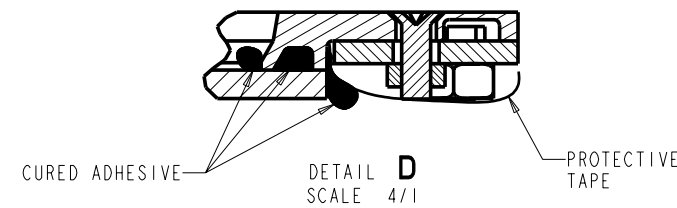

FIGURE 3
OVER CORRECTION (FIG 3)
## OVER CORRECTION (FIG 3)
SPACER INSTALLATION MAY CAUSE SLIGHT OVER CORRECTION OF OPTO LINE OF SIGHT (FIG 3). CORRECTION SHOULD BE LESS THAN 1mm.
**SOLUTION:** SET THE GASKET AWAY FROM EDGE 1 ABOUT .5mm TO 1mm (AS SEEN IN FIG 3) TO PROVIDE OPTIMUM GASKET EXPANSION DURING COMPRESSION WITHOUT BLEEDING OVER EDGE 1 INTO THE OPTO'S LINE OF SIGHT OR CUT GASKET OFF SO OPTO LINE OF SIGHT IS NOT OBSTRUCTED.
AFTER CURING REMOVE TAPE AND ADHESIVE FROM ASSEMBLY IN ACCORDANCE TO SPECIFICATION CT 2000-0340. SEE FIGURE 3